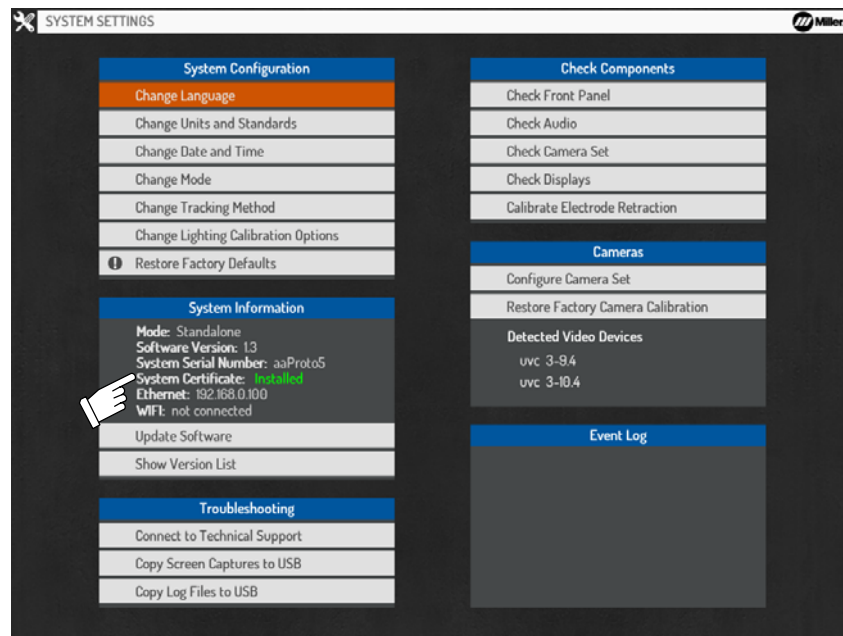

Figure 9-5. System Settings Screen
For classroom configurations the IP address is always the same (10.0.0.1). To obtain the IP Address for stand-alone configurations, log in as administrator on AugmentedArc system. Press AugmentedArc Systems Settings Button (Section 6-1). System Settings screen displays Ethernet IP address (Figure 9-5).
- Incorrect IP address. For Standalone mode, check the IP address on the AugmentedArc (see Figure 9-5) and reenter it. For Classroom mode, enter 10.0.0.1.